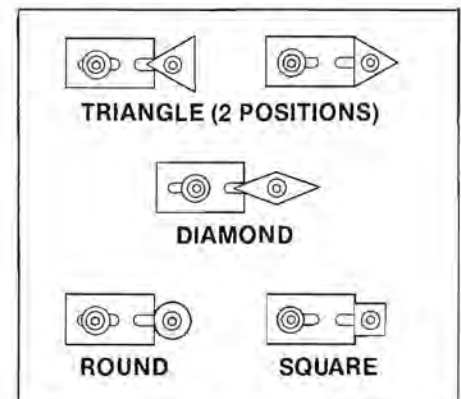

Figure 4. Mounting positions of carbide cutters and cutter guides.
- 6. Install the carbide cutter and cutter guide.** Attach the triangle carbide cutter (57), with the bevel down, to the cutter support (58) with screw (56) finger tight. Any of the cutter's three points or flats may be positioned as shown in Figure 4. With the open slot end of the cutter guide (55) pressed firmly against a flat side of the carbide cutter, use the 7/64" Allen wrench to attach the cutter guide securely to the cutter support with screw (53) and washer (54). Then, securely tighten the screw (56) of the carbide cutter.